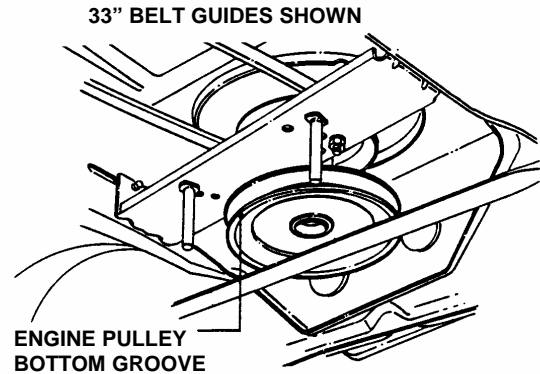

FIGURE 4.24
10. Slide deck forward. Remove deck drive belt from engine pulley bottom groove. See Figure 4.24.